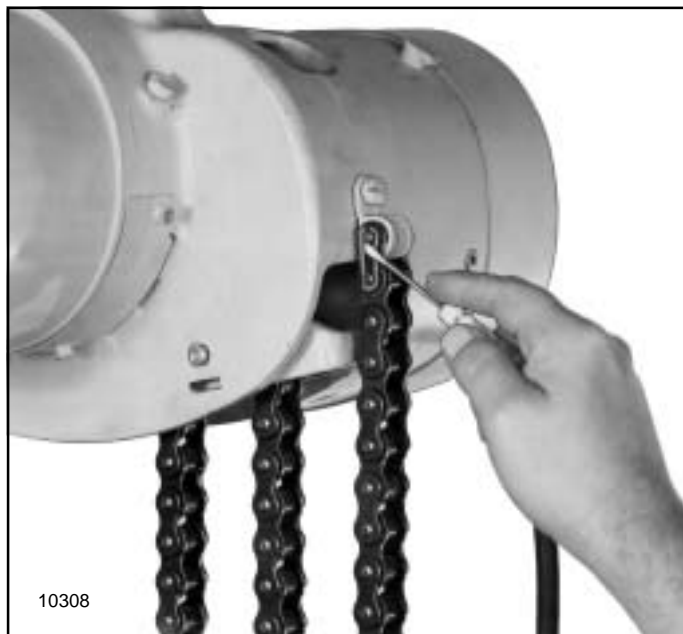

Figure 7-1. Removing Spring Clip from Connecting Link at Tail End of Load Chain (Roller Chain Models)
(1) On models with single-reeved load chains (1/4 thru 1 ton rated loads) disconnect tail end of load chain from anchor at side of frame. Remove spring clip and connecting link attaching chain to anchor on roller chain models (fig. 7-1). Remove fillister head screw holding end link to frame on link chain models. Remove grooved pin from the limit actuator and pull it off end of chain. With hoist connected to power supply, run chain out of hoist by operating in "lowering" direction. (See note following paragraph (2) below and note in Sec. V, par. 5-2. a. (3) for inserting short length of chain.)